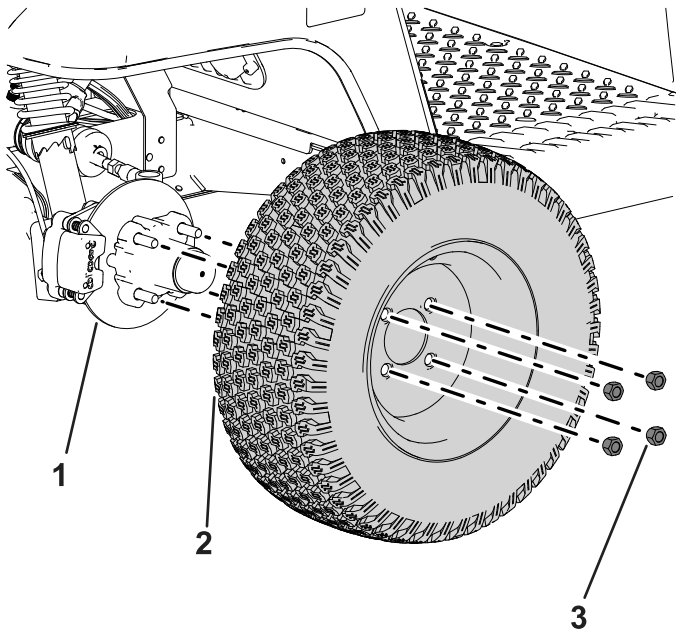

Figure 32
2. Remove the 4 lug nuts that secure the wheel to the hub (Figure 32).
4. Align the holes in the wheel to the studs of the hub and assemble the wheel to the hub with the valve stem outward (Figure 32).
5. Secure the wheel to the hub using the lug nuts (Figure 32).